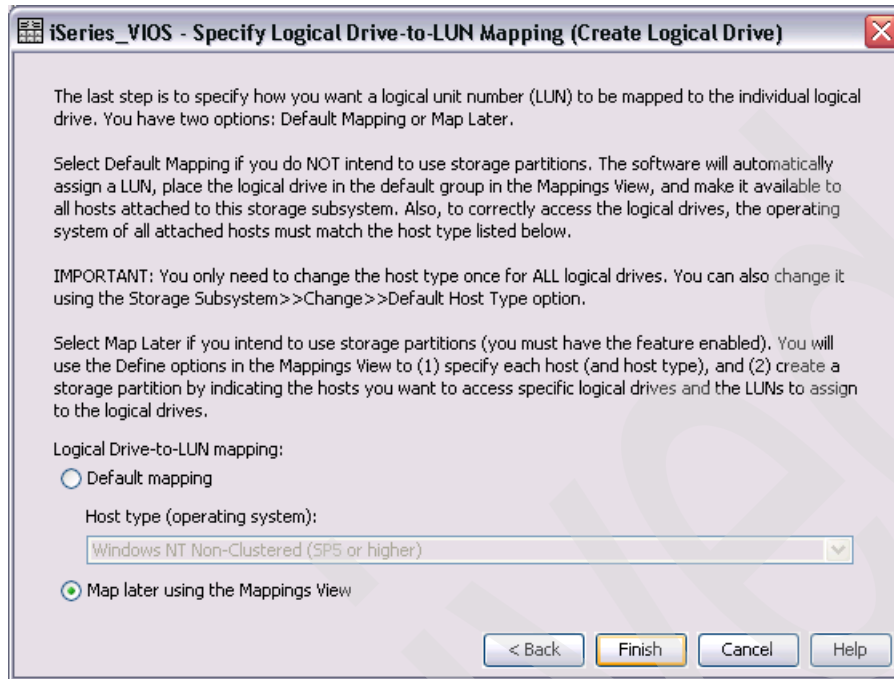

Figure 7-57 DS Storage Manager Specify Logical Drive-to-LUN Mapping dialog
9. In the Specify Logical Drive-to-LUN Mapping dialog we accept the default **Map later using the Mappings View** and click **Finish**, as shown in Figure 7-57.